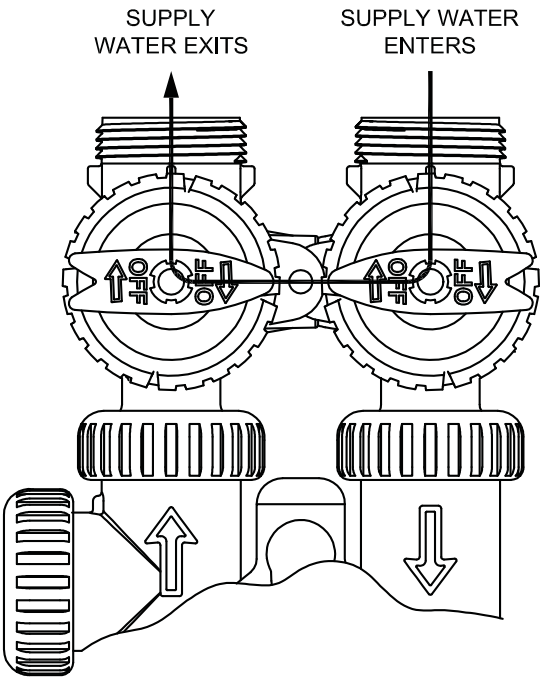

Figure 3
**3. Diagnostic Position:** The inlet handle points in the direction of flow and the outlet handle points to the center of bypass valve, system water pressure is allowed to the control valve and the plumbing system while not allowing water to exit from the control valve to the plumbing. (See Figure 3)